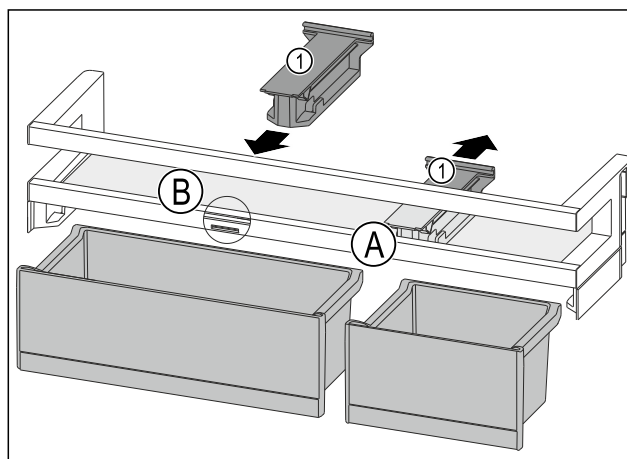

Fig. 97
- ▶ Take off the holding part Fig. 97 (1) in position Fig. 97 (A) backwards.
- ▶ Insert the holding part Fig. 97 (1) in position Fig. 97 (B).